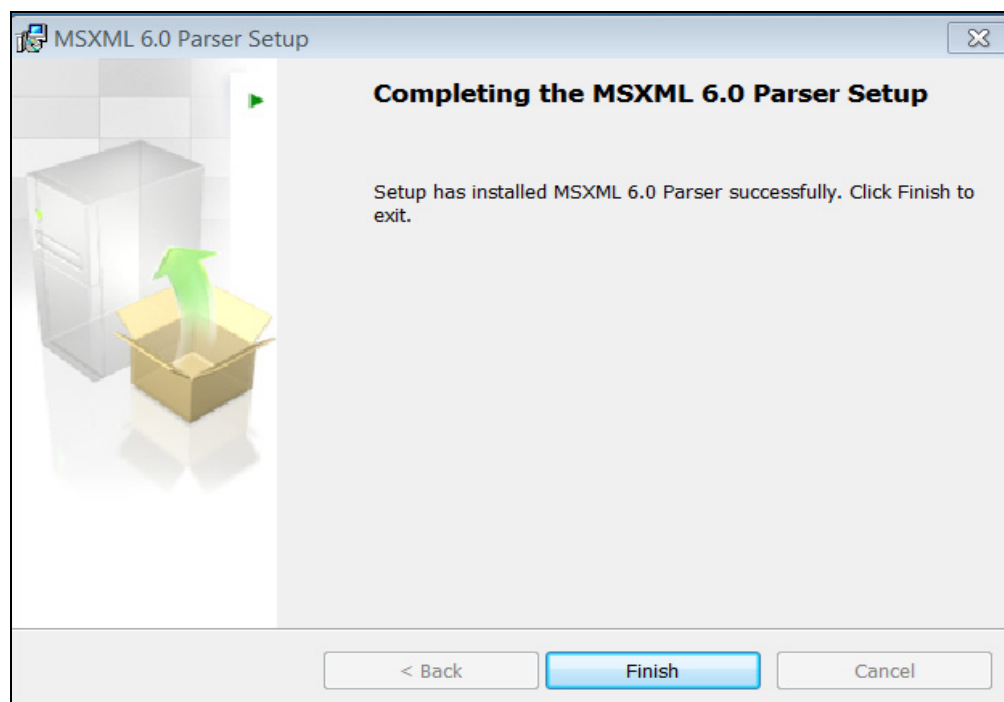

FIGURE 2-7: MSXML Parser Setup Window.
- After the setup is complete, the MSXML Parser used by the Chip Manager software is installed, as shown in Figure 2-7.